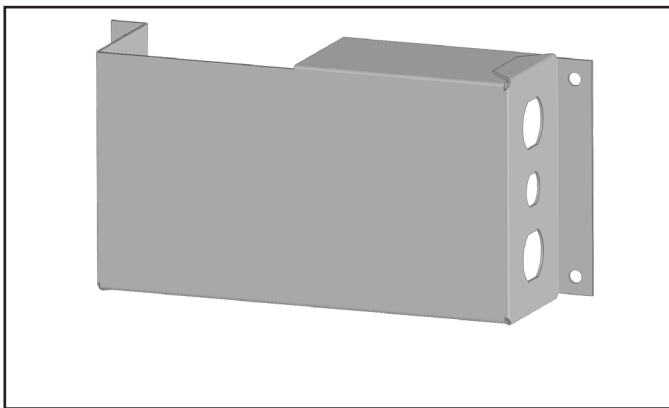

Fig. 3. Wire cover #1.
13. **TPP/TUC/TWT (side condensing unit):** Route the wire harness and new display cable through wire cover #1 only (see figs. 3 and 4). Do not mount the wire cover.